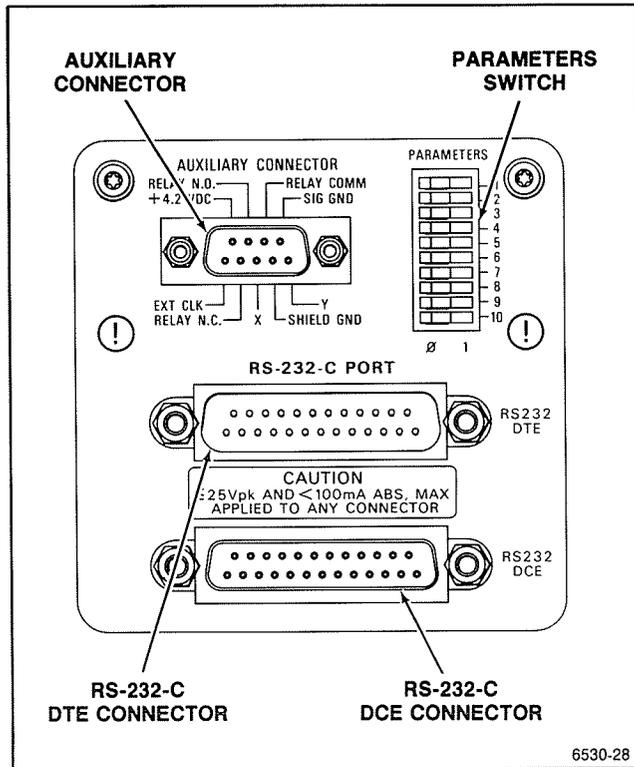

Figure 7-3. Option 12 side panel.
The side panel for Option 12 instruments (Figure 7-3) includes one AUXILIARY connector, one RS-232-C interface port (providing both DTE and DCE capability), and one PARAMETERS switch. The Controls, Connectors, and Indicators part of this manual contains information on the use of the AUXILIARY Connector. Refer to Figure 7-3 for location of the Option 12 side-panel controls and connectors.
**RS-232-C DTE Connector**—Provides connection meeting the EIA RS-232-C standard for data terminal equipment (see Figure 7-3). Table 7-9 lists the function of each pin of the connector. This connector is provided only on Option 12 instruments.
**RS-232-C DCE Connector**—Provides a connector that meets the EIA RS-232-2 standard for data communications equipment (see Figure 7-3). Table 7-10 lists the function of each pin of the connector. The connector is provided only on Option 12 instruments.